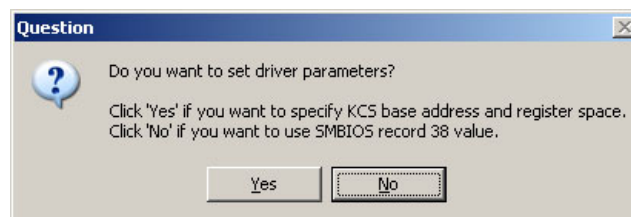

Figure 2-33 Driver parameters
1. Run Setup.exe. After the usual initial windows, you will be prompted to select a driver parameter, as in Figure 2-33.